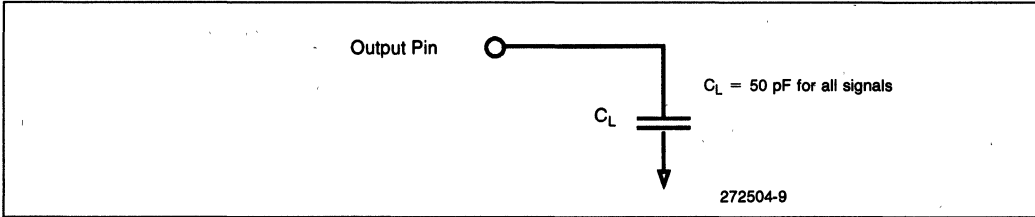
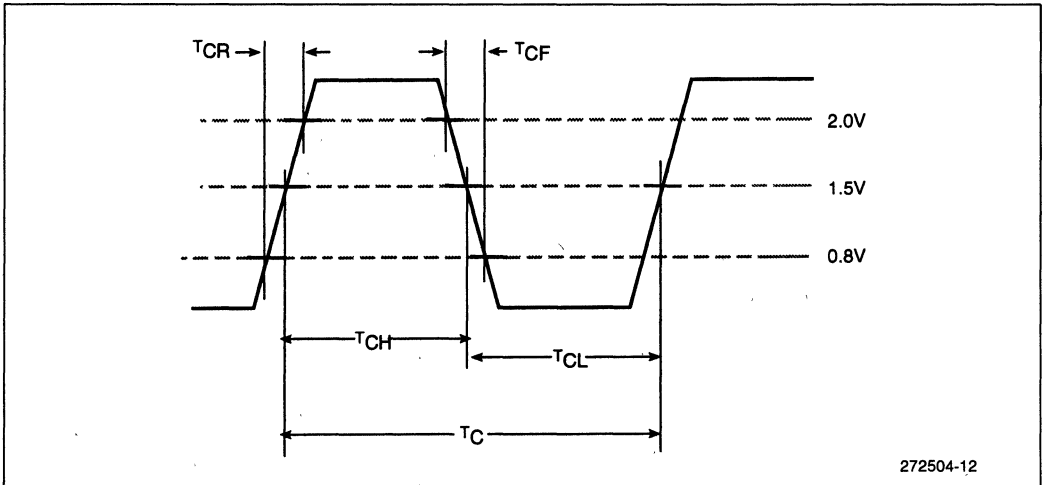
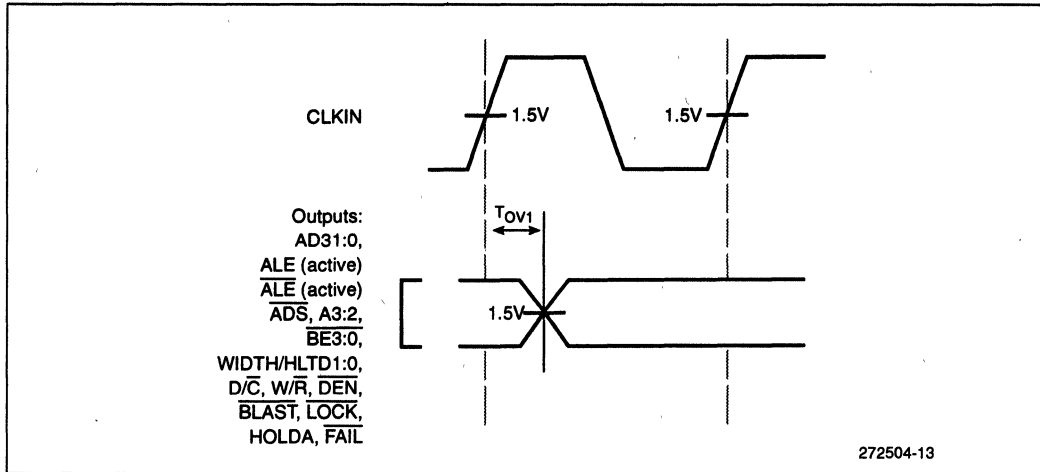

Figure 6. AC Test Load
Figure 9. CLKIN Waveform
Figure 10. Output Delay Waveform for T_{OV1}
1. Measured with device operating and outputs loaded to the test condition in Figure 6, AC Test Load (pg. 31).
The AC Specifications in Section 4.5, AC Specifications are tested with the 50 pF load indicated in Figure 6. Figure 9 shows how timings vary with load capacitance; Figure 10 shows how output rise and fall times vary with load capacitance.